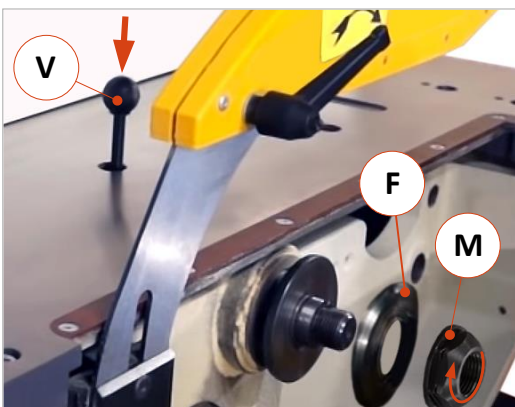

Figure 28: Saw shaft with flange and clamping nut
- Insert the shaft lock (V) into the opening behind the circular saw shaft (⇒ Figure 28) and turn the saw shaft manually until the shaft lock (V) engages.
- Use an open-end spanner SW 36 mm to remove the clamping nut (M) by turning it clockwise ↻ (left-hand thread!) and put it aside.
- Carefully remove the outer pressure flange (F) and put it aside as well.
- Clean the contact surfaces of the clamping nut (M), the pressure flange (F) and the circular saw shaft and check all parts for damage, bending and sharp edges. All contact surfaces must be clean and in perfect condition.